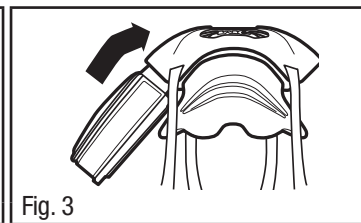

Fig. 3
3. If the cartridge/filter does not lock into place when inserted, it may be due to the angle of insertion. Lift up slightly on the cartridge/filter until the cartridge/filter locks into place (Fig. 3).